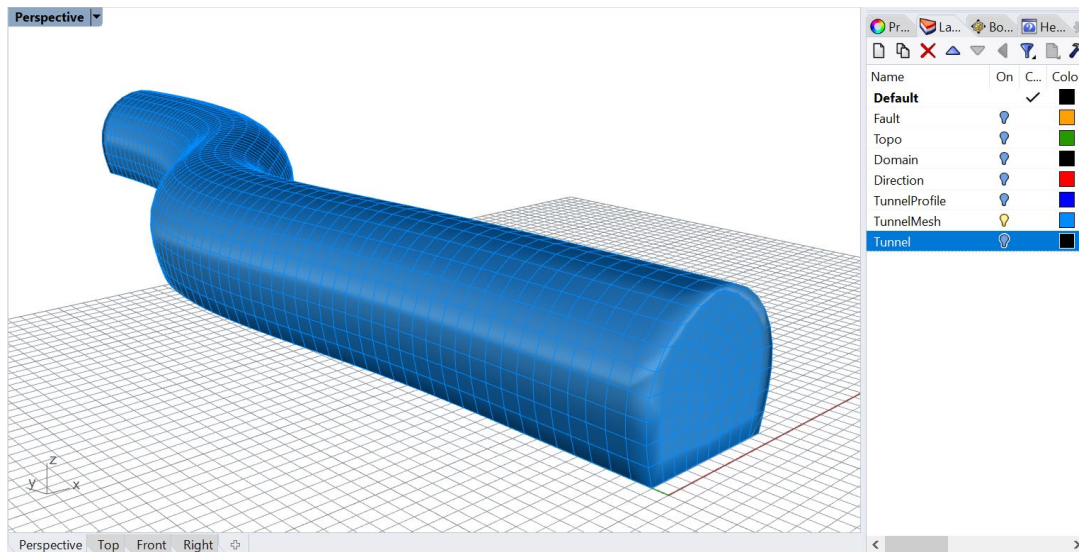

Figure 59: Surface mesh corresponding to the exterior of the tunnel's structured volume mesh.
28. Select all 21 solids corresponding to the tunnel excavation stages and type the **\_BR** command or click on the  icon in the *Griddle* toolbar. Use all default **BlockRanger** parameters and set *GenerateSurfaceMesh* = *ByModel*. **BlockRanger** will create a structured volume mesh for the tunnel and will output it at the user-specified location (keep *FLAC3D* binary format as output format). **BlockRanger** will also create surface mesh corresponding to the tunnel’s external surface and will output it into *Rhino* (Figure 59). This surface mesh will be used to create an unstructured volume mesh outside the tunnel.
29. Create new layer “TunnelMesh”. Change the layer of newly created surface mesh from “Default” to “TunnelMesh”. Now turn off layer “Tunnel”, leaving only one layer active as shown in Figure 59.
To create an unstructured domain mesh that is conformal with the tunnel structured mesh, bounding surface mesh presented in Figure 59 will be used.